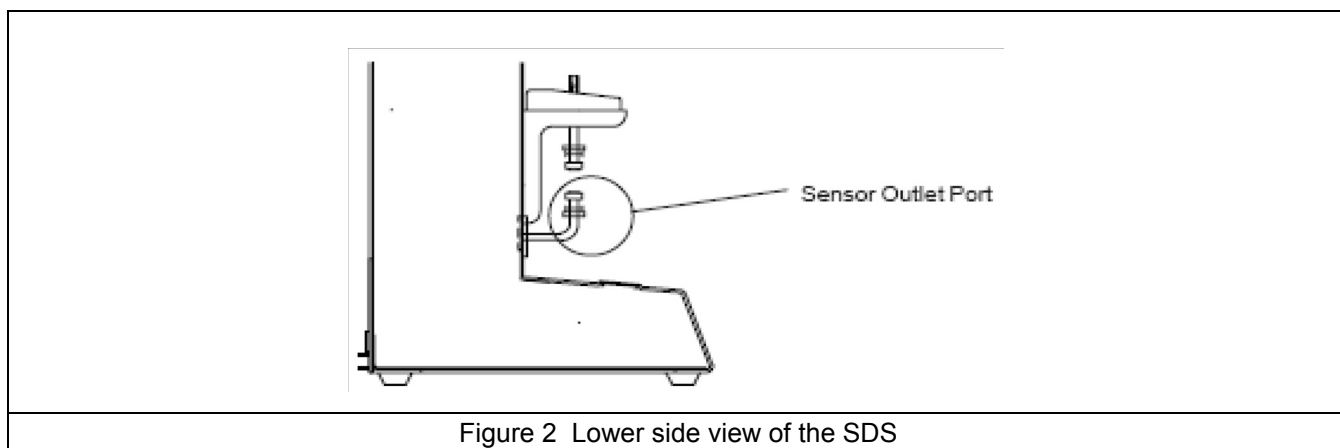

Figure 2 Lower side view of the SDS
2. Pull the sensor outlet port away from the body of the SDS until the tube stops moving. See Figure 2 on page 11.